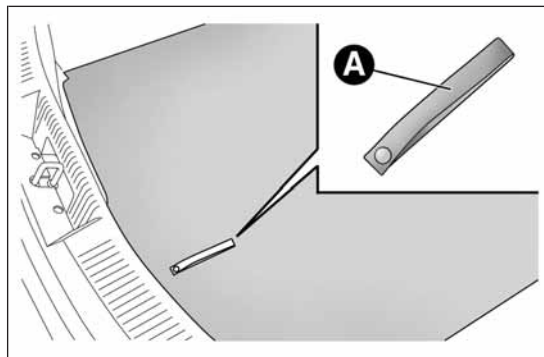

fig. 116
- ☐ open the luggage compartment, pull tab A fig. 116 and lift up the mat;
- ❑ open the luggage compartment, pull tab A fig. 116 and lift up the mat;